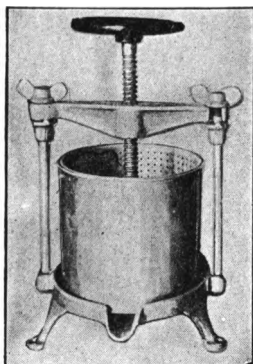

FIG. 270c.—FRUIT PRESS
3. What type of machine appears in the screw driver, knob of a door, the cutting edge of a knife, paper clip, broom, glove stretcher, carpenter's plane, gimlet, needle, shovel used for lifting coal, bicycle, carpet sweeper, flour sifter, fruit press (Fig. 270c).